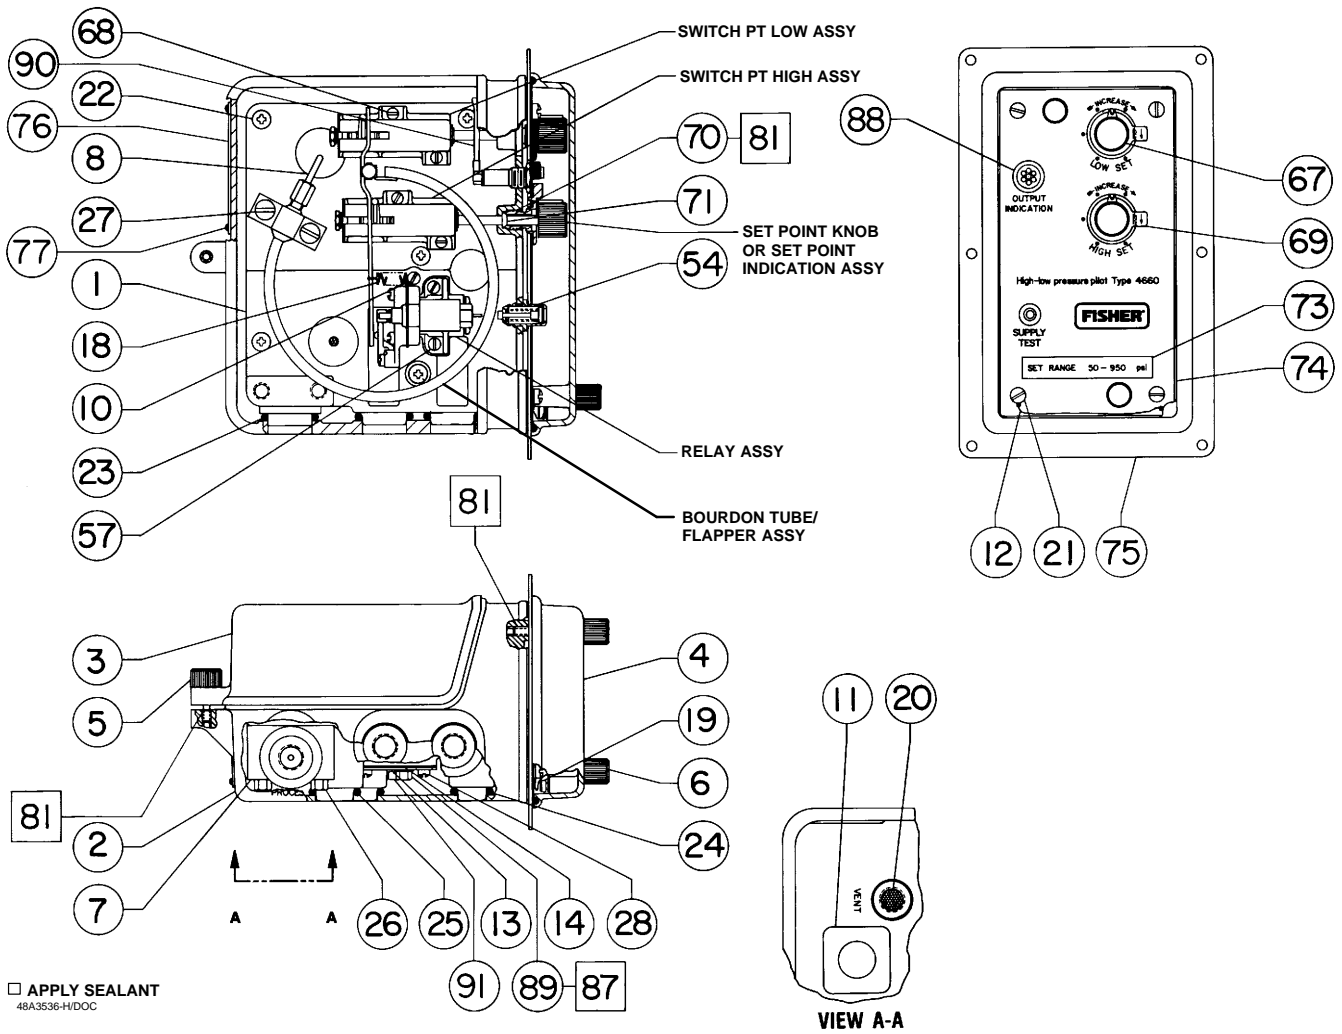

Figure 8. 4660 Pilot Assembly
Whenever corresponding with your Emerson Process Management sales office about this equipment, always mention the pilot serial number located on the nameplate (key 76, figure 8) on the rear of the pilot. When ordering replacement assemblies or parts, refer to the 11-character part number of each assembly or part as found in the following parts list.